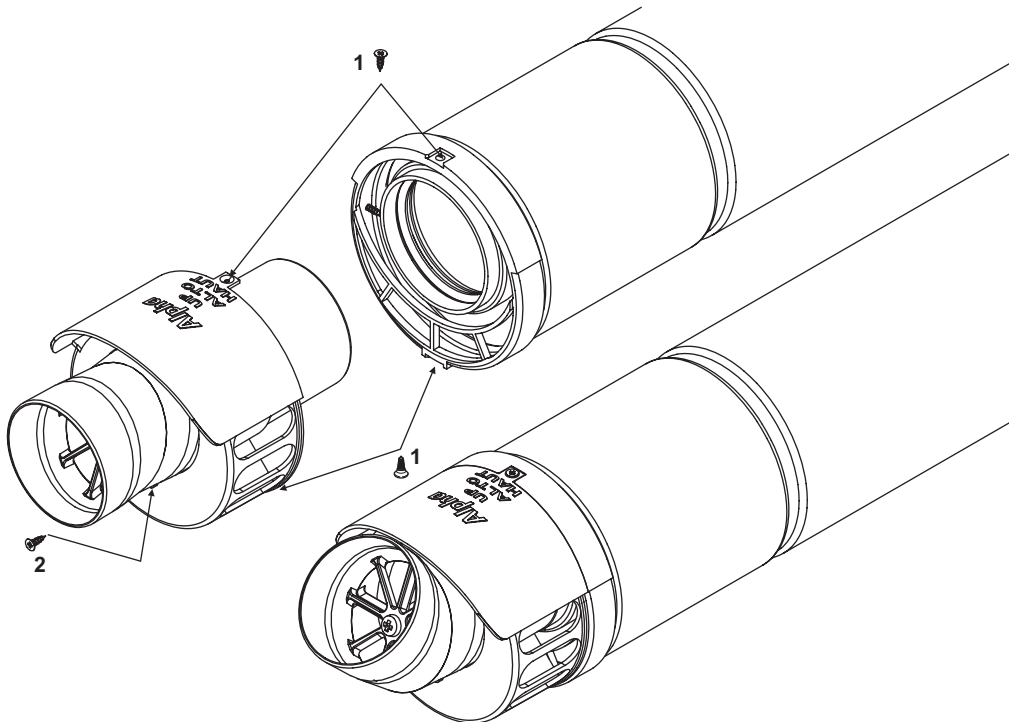

Fig. 4.12
- i. Remove the screws (1 in Fig. 4.12) securing the terminal and remove the terminal by pulling it from the flue assembly. Remove the screw (2 in Fig. 4.12) securing the terminal end section and remove the end section from the terminal.